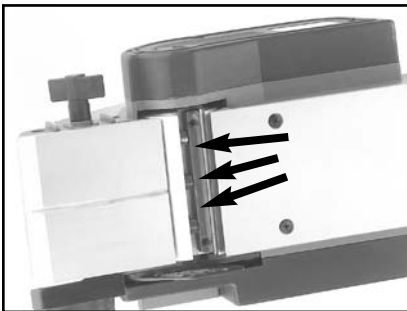

Figure 8. 3 gib bolts.
3. Using the open end wrench, loosen the 3 gib bolts (**Figure 8**) on the blade holder.